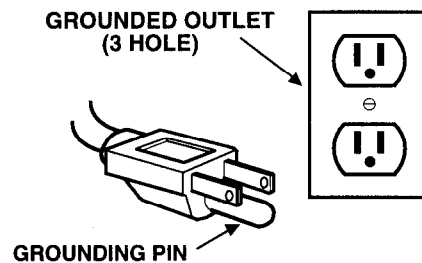

Fig. 3
**⚠ WARNING:** Plug into grounded outlets only. Do not use an adapter or remove ground pin on plug. Do not use if cord is damaged. (Figure 3)